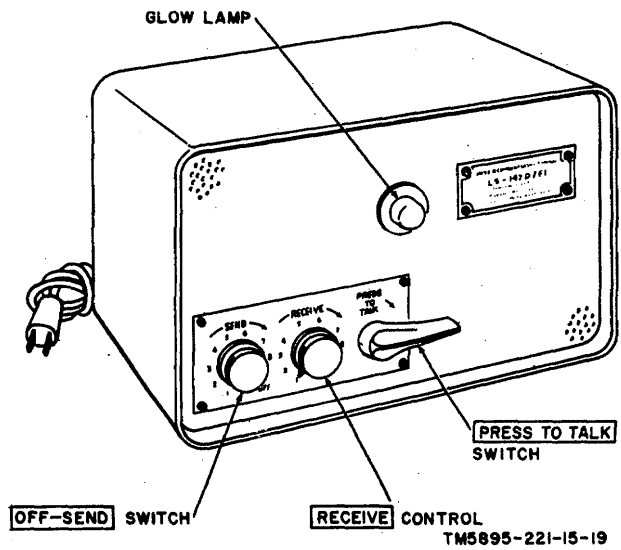

Figure 23. Intercommunication Station LS-147(*)/F1.
j. *Intercommunication Station LS-147(*)/FI* (fig. 23). The LS-147(*)/FI is mounted on the curbside wall (fig. 14). It provides two-way, non-private communication in a system that consists of other LS-147 (*) /FI's or equivalent equipment.